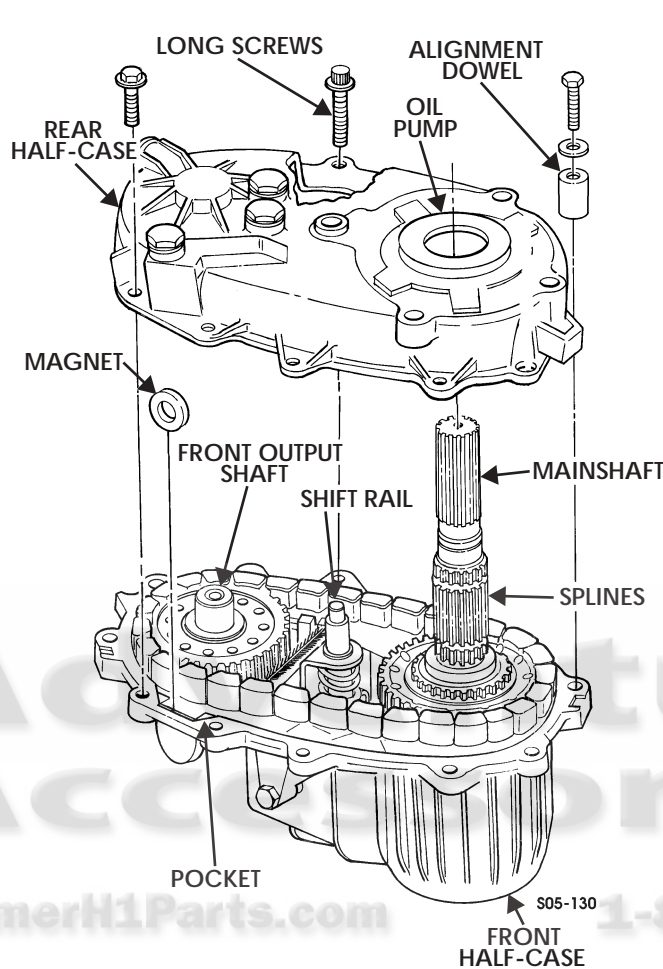

Figure 5-183: Case Half Assembly
34. Install magnet in pocket of front half-case (Figure 5-183).